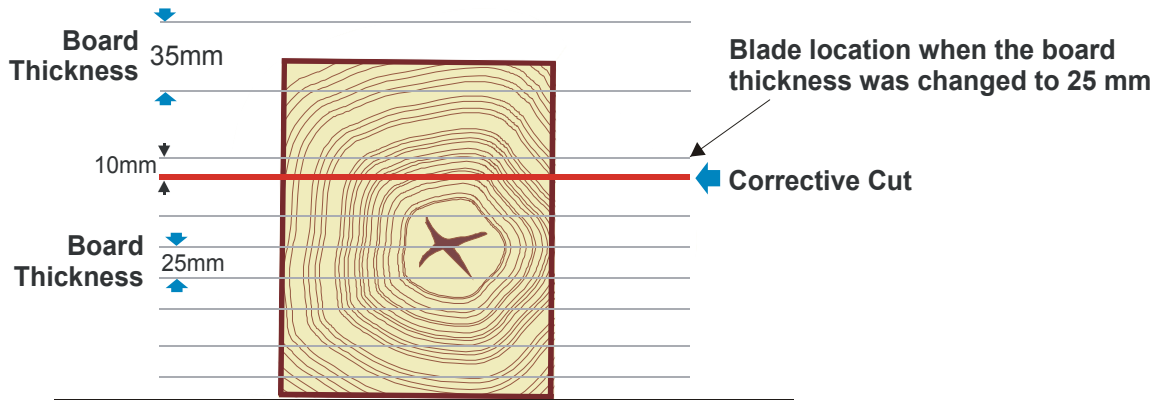

**FIG. 4-15**
**See Figure 4-15. Example:** In this example the blade kerf is 0. You are sawing 30-mm-thick boards from a 500-mm-thick (high) cant and want to finish with a 100-mm-thick cant. The saw head is at the height of 510mm.